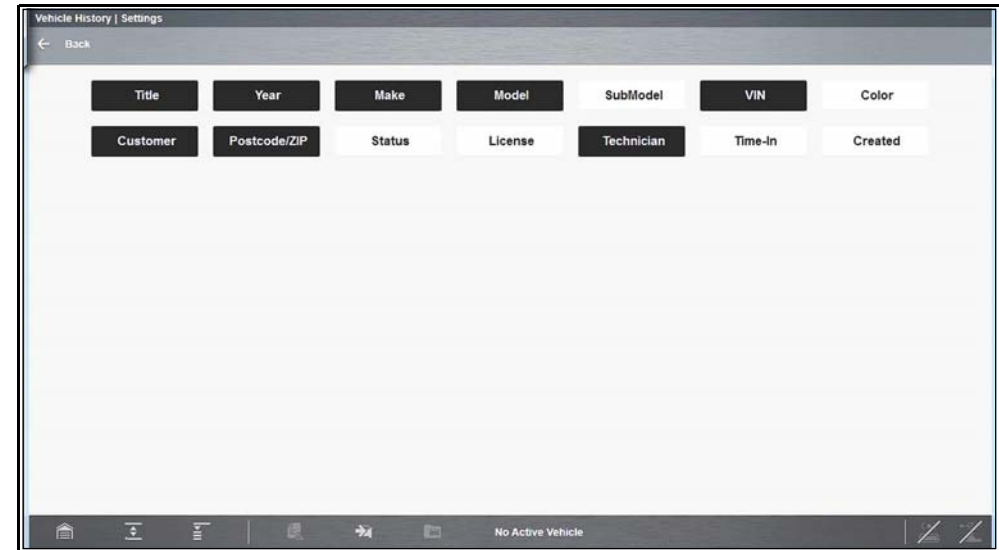

Figure 11-5
1. Select **Settings** to open the menu (*Figure 11-5*).